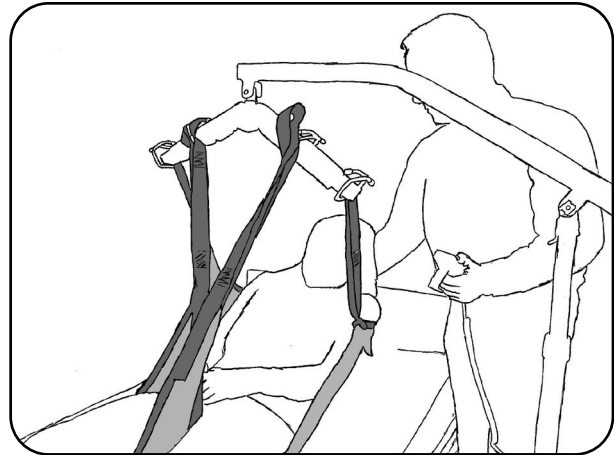

Fig. 9.2.04 - Lifting the patient
12. Lift the patient with the aks-patient hoist (Fig. 9.2.04). While doing so, observe the patient and the tensioning of the hoist sling. If necessary, correct the position of the hoist sling by lowering the patient again and moving the parts of the hoist sling that are not positioned correctly. Observe the patient and the position of the hoist sling constantly throughout the entire lifting procedure. Only lift the patient as high as is necessary.